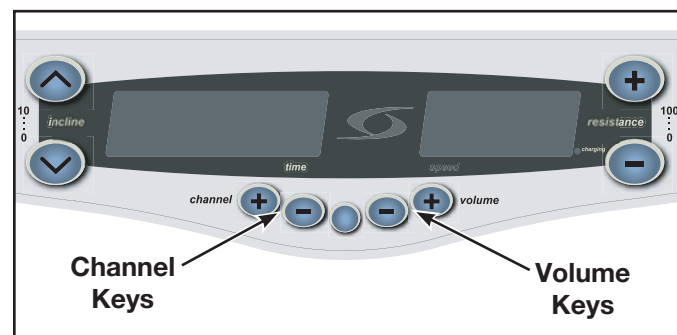

Figure 24
- Locate the AC/DC adapter (W) supplied with the monitor and plug into the power cable exiting the base of the Arc.
- Plug the power cord (X) into the AC/DC adapter (W). **NOTE:** Power cord (X) varies by country.
- Plug the power cord (X) into a wall outlet.
- Refer to Chapter 3 of the Personal Entertainment Monitor Manual (LT-20191) regarding use of the channel and volume keys located on the lower center of the Arc console. See Figure 24.